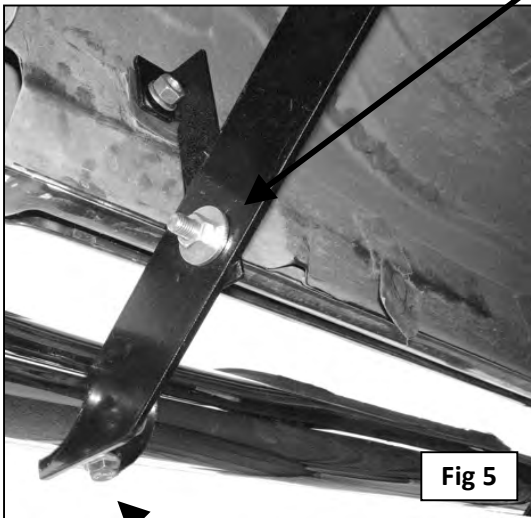

Fig 5
9. With assistance, carefully position the driver Sidebar onto the Mounting Brackets. Partially attach the Sidebar to the front and rear Mounting Brackets with the included (4) 8mm x 25mm Hex Bolts, (4) 8mm Lock Washers and (4) 8mm Flat Washers, (**Figure 5**). Do not tighten hardware at this time.